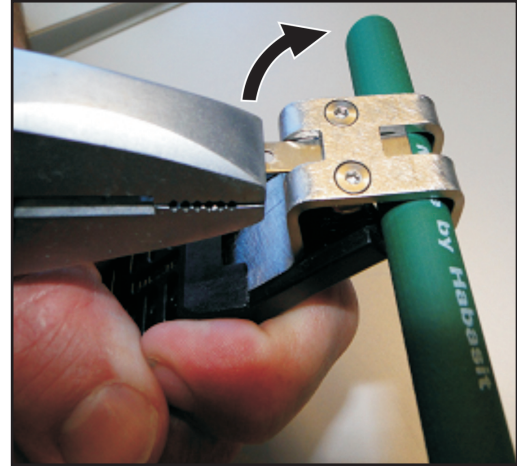

Figure 2
2. Position a round belt into the tool by moving the head of the tool forward with your thumb. Refer to Figure 2.